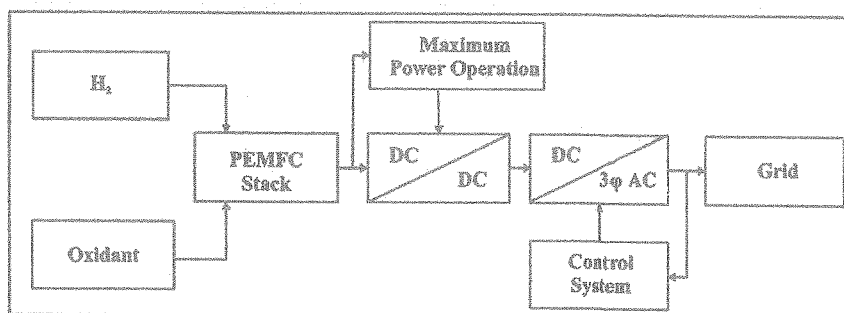

Figure Q2(c) Grid integration of PEMFC stack
- c) Grid Integration of a proton exchange membrane fuel cell (PEMFC) stack is illustrated in Figure Q2(c). The PEMFC stack consists of 10 series connected PEMFCs each with internal resistance of  $0.1 \Omega$ . The average discharging current of a cell should be kept at  $0.5 \text{ A}$ . Due to the variation of the  $\text{H}_2$  supply, the stack voltage is varying in a range from  $90 \text{ V}$  to  $150 \text{ V}$ . For each input value, the duty-ratio of the DC-DC converter is adjusted to keep the inverter input voltage constant at  $120 \text{ V}$  using PWM switching with  $f_s = 25 \text{ kHz}$ .